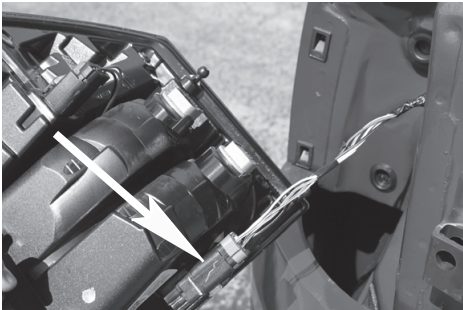

Figure 2
3. Gently pull taillight away from the vehicle and locate vehicle's factory wiring harness connectors shown in **Figure 2**. They will be similar to those on RV Harness. Slide red connector lock and separate connectors from both sides and set aside. Inspect connectors for dirt and debris and clean if necessary.